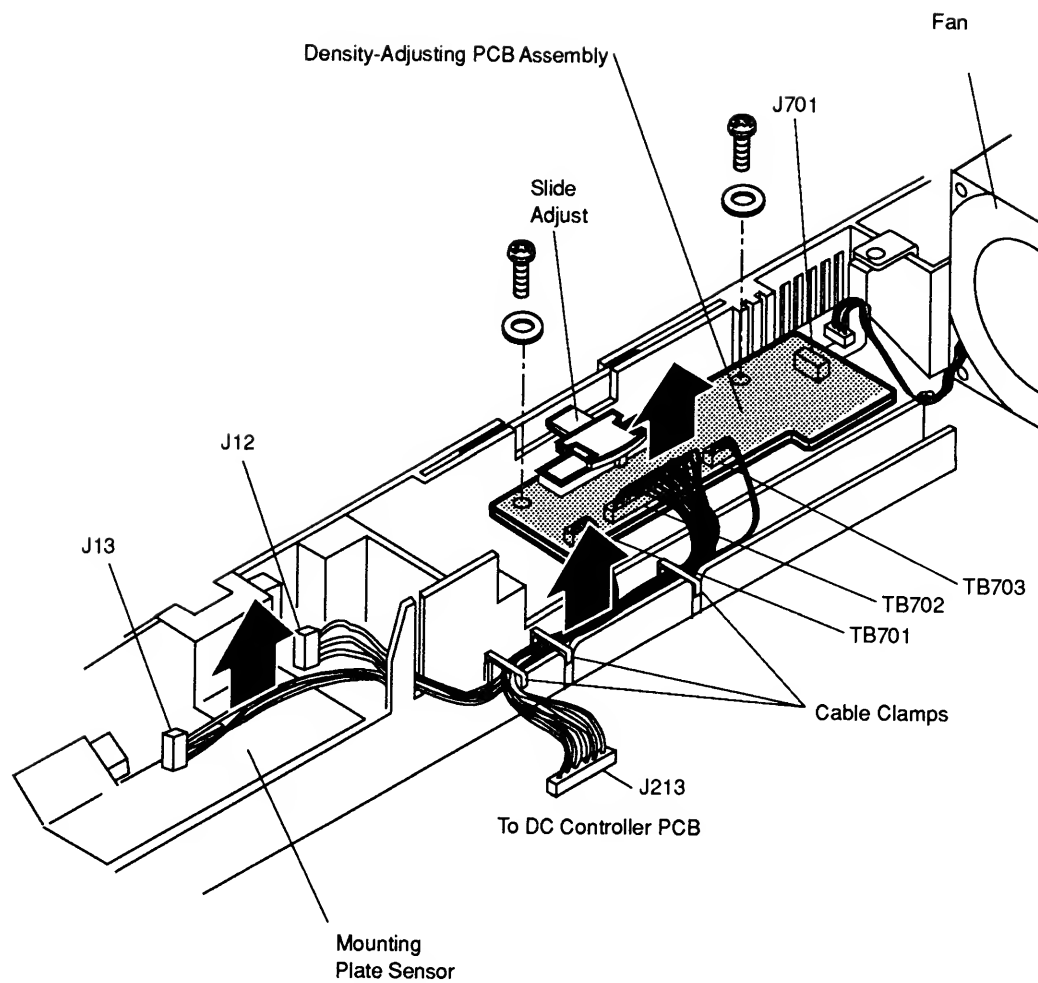

Figure 2-19 Density-Adjusting PCB Assembly
2. Locate the density-adjusting PCB next to the fan (**Figure 2-19**).
3. Disconnect the fan connector (J701) from the density-adjusting PCB (**Figure 2-19**).
4. Disconnect connector J213 from the DC controller PCB (**Figure 2-19**).
5. Use a small flat-blade screwdriver to open the three black cable retainers behind the density-adjusting PCB; remove the connector cables (**Figure 2-19**).
7. Remove the two black screws and washers that secure the density-adjusting PCB to the printer chassis (**Figure 2-19**).
8. Lift the density-adjusting PCB out of the printer (**Figure 2-19**).